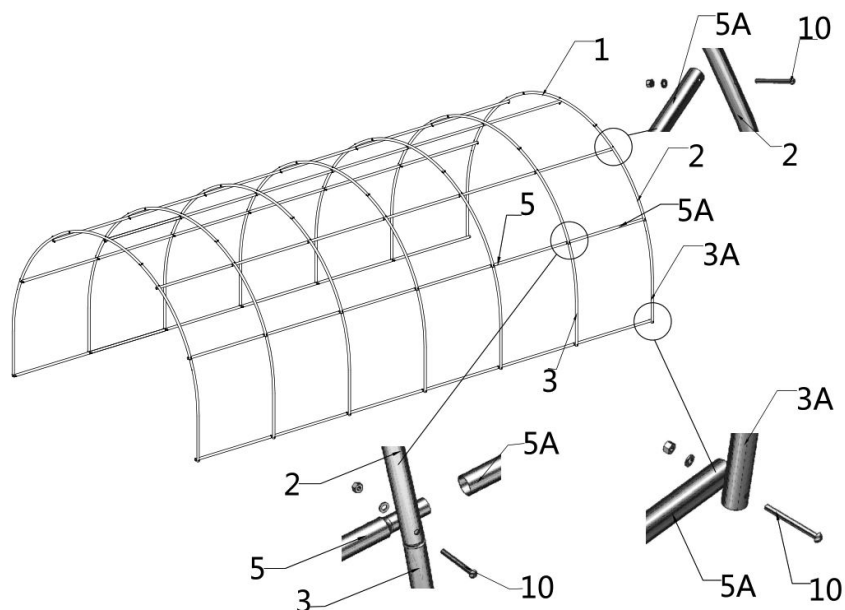

Figure 7
- Finally, the rear truss (the 7th span truss) is erected, and then the Roof purlin (#5A) is connected with the truss with bolts (#10). (refer to Figure 7)